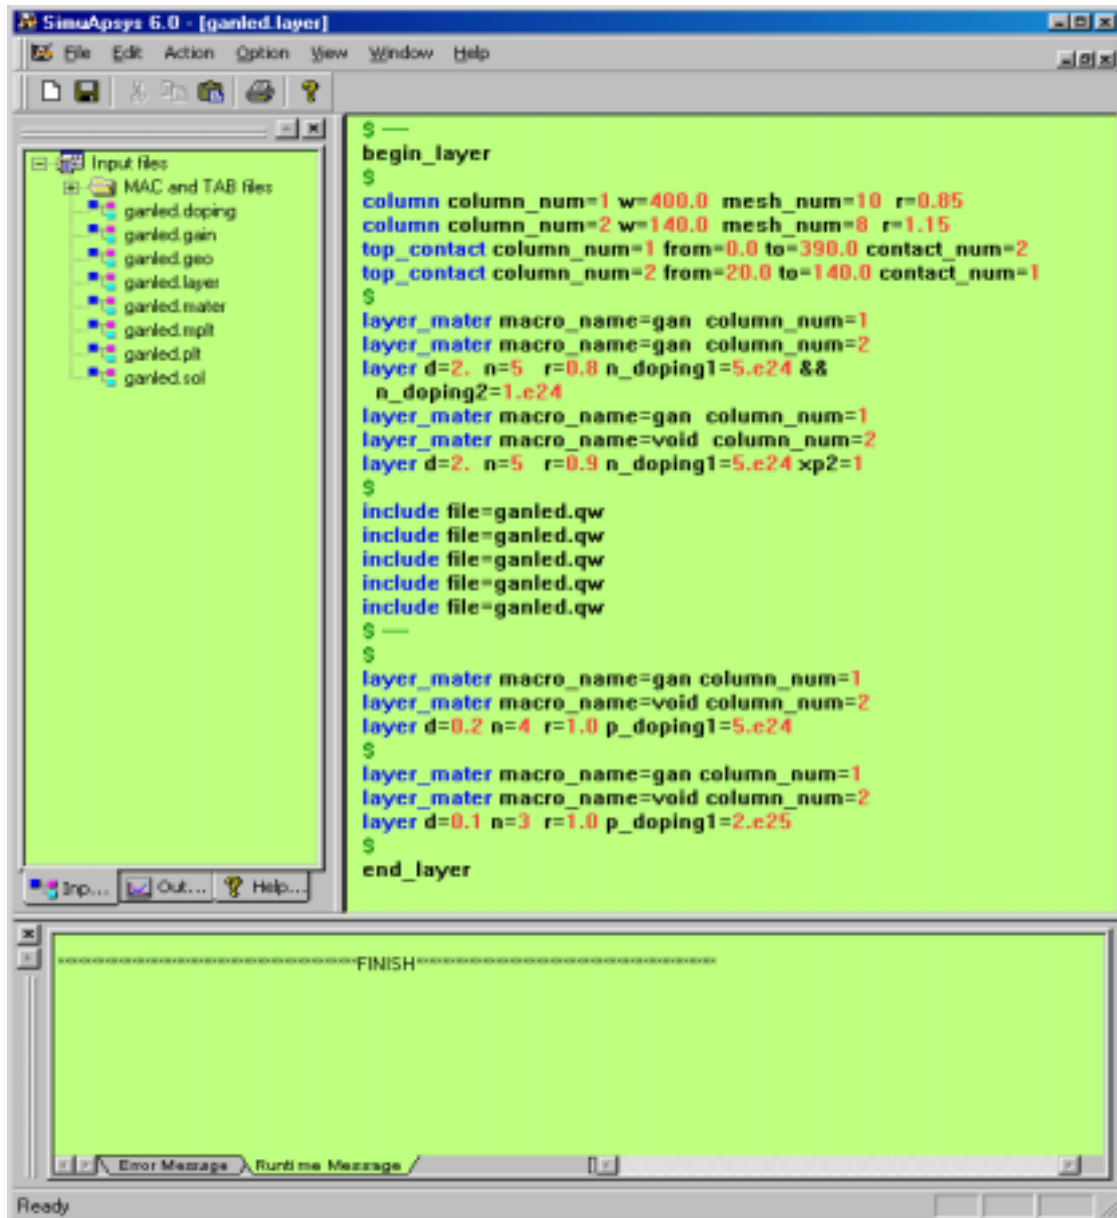

Fig. 13 SimuApsys user interface with ganled.layer
- (1) Activate SimuApsys. You can do this by simply choosing "SimuApsys" located in the APSYS program folder (c:\crosslig\apsys). Once SimuApsys is open, choose "File" from the menu bar and scroll down to "Open Project". Go to the example folder given above. Select ganled.sol and open the layer file (Fig. 13). The file gives two columns to describe our 2D diode. The left column 1 is 400 μ m wide and partially covered by the 390 μ m wide top contact. The right column 2 is 140 μ m wide and partially covered by the 120 μ m wide side contact. Both columns share only the bottom GaN layer, all other layers are only located in column 1 while the parallel layer in column 2 is void. The input for the 5 quantum wells is identical and given in the file ganled.qw. You may import this file instead of using "include file=ganled.qw". This reveals that the LED example assumes a 3nm thick $\text{In}_{0.4}\text{Ga}_{0.6}\text{N}$ quantum well with 5nm thick $\text{In}_{0.08}\text{Ga}_{0.92}\text{N}$ barriers. After clicking on any command, go to "Edit > Wizard" to evaluate further command options.
- (2) Using this .layer file, we first generate new files containing information on device geometry (.geo), doping (.doping), materials (.mater), as well as the file .mplt to plot the mesh. We will